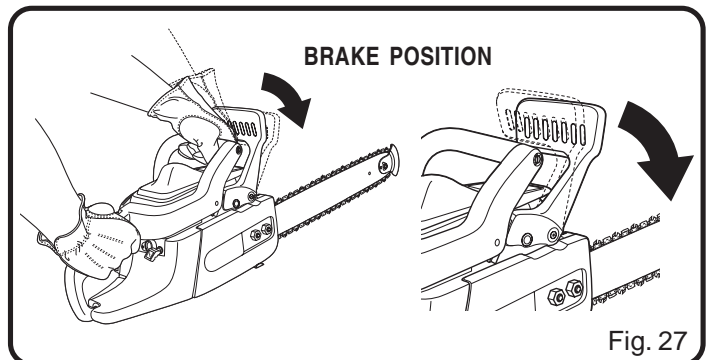

Fig. 27
2. Pull the throttle trigger to bring the chainsaw up to full speed. Using the back of your left hand, engage the chain brake by pushing the chain brake lever/hand guard towards the bar while the chain is rotating rapidly. See Figure 27.